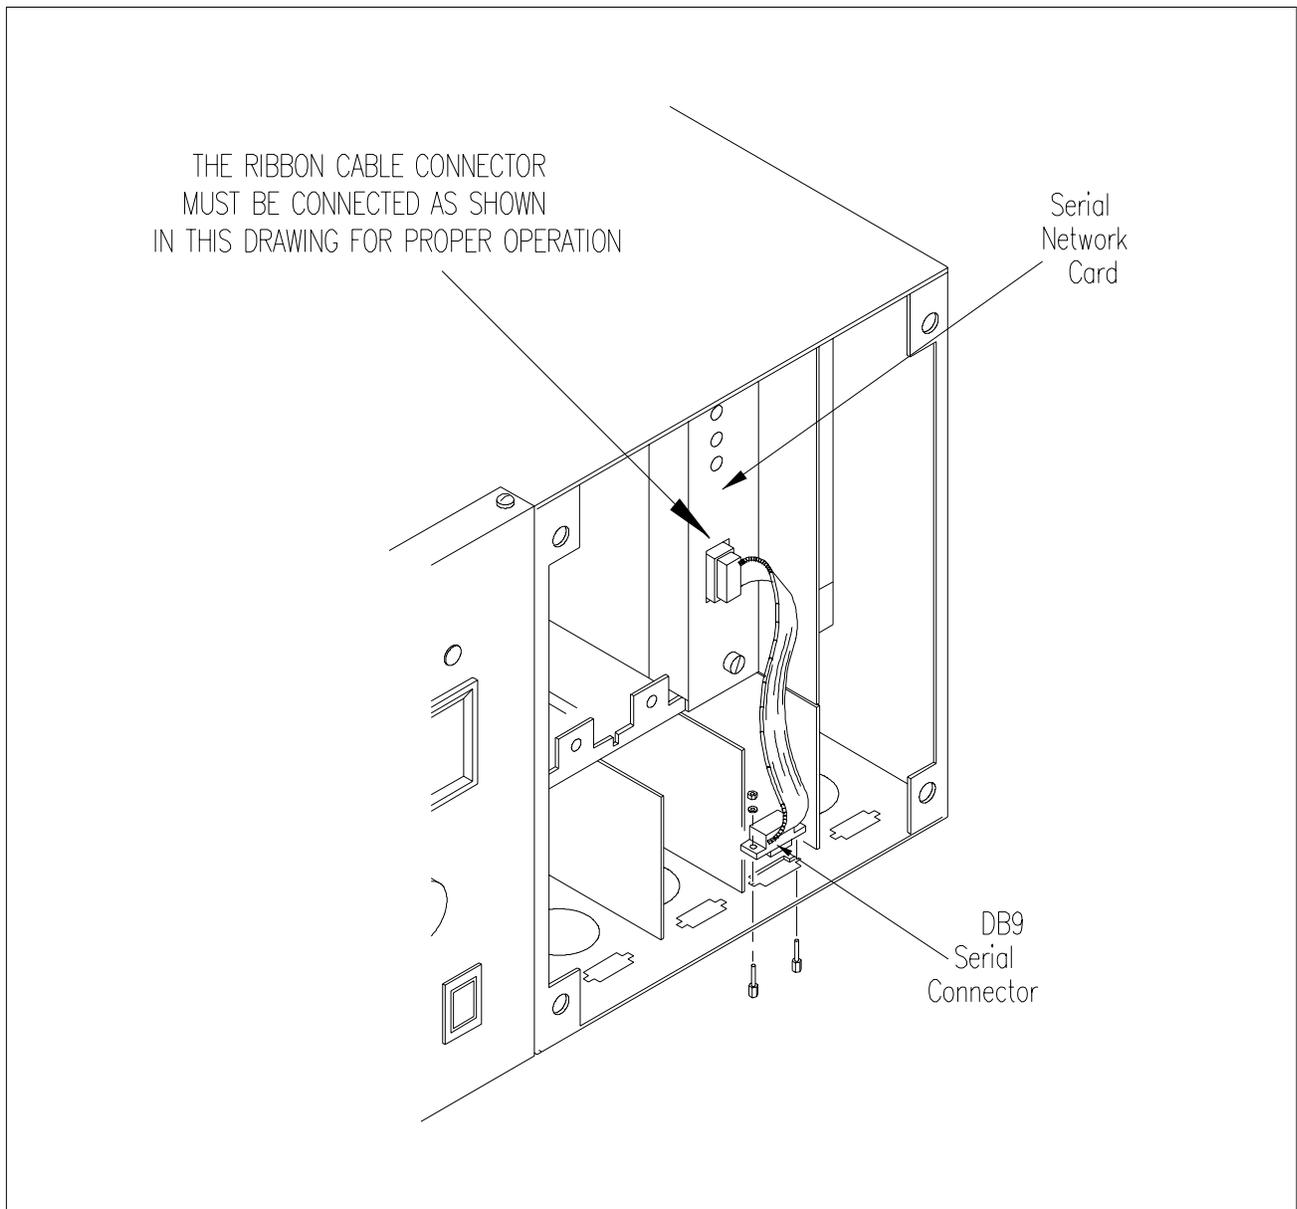

Figure 1.3 Serial Network Card - DB9 Connector Installation
Step 1: Disconnect power to the Prolink chassis at the electrical service panel and the On-Off switch on the Prolink chassis power supply circuit board. Open the network card access panel and select an unused slot for installation. (Refer to figure 1.3)
Step 4: Slide the Serial Network Card into the selected slot. Note the orientation of the card in figure 1.3, the card can be installed in this position only. Ensure that the card connects completely with the backplane board. Tighten the two hold-down screws to fully secure the card position.